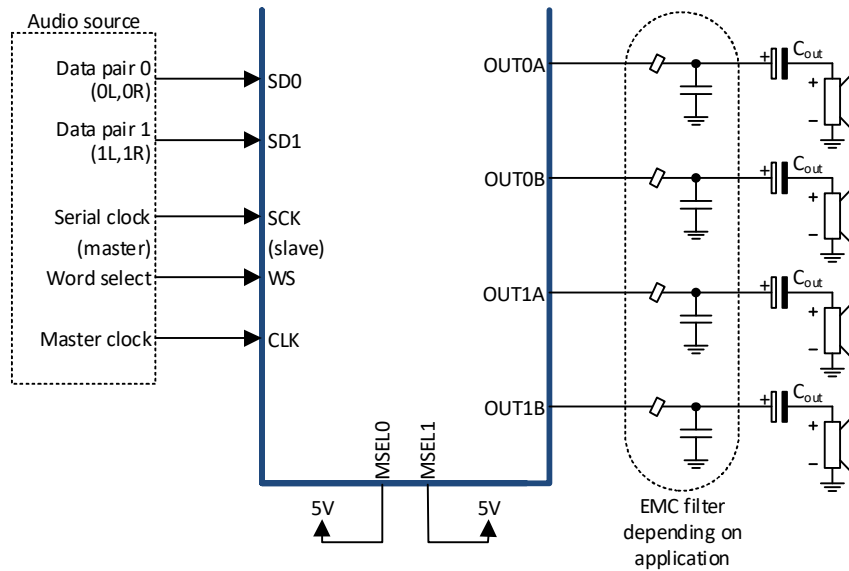

Figure 9-2 Four channel, single ended (SE) configuration
In single ended (SE) configuration, the MA12040P is able to drive one loudspeaker per output power stage, i.e. up to four loudspeakers. The output is biased to half the power supply voltage, $\frac{1}{2}$ PVDD. One of the solutions to drive a speaker in this configuration is to use AC-coupling capacitors (C_{out}) in series with the load, as shown in Figure 9-2. The value of the capacitors depends on the load resistance and the desired audio bandwidth.